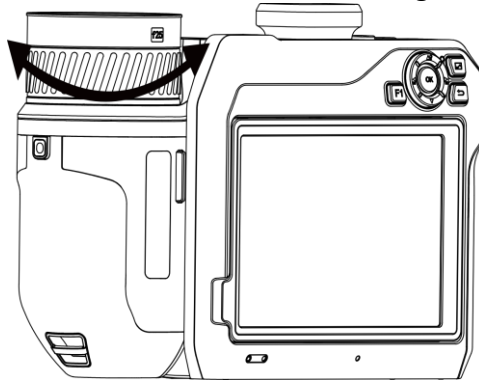

Figure 3-1 Focus Lens
3. Adjust the focus ring clockwise or anticlockwise until the target is clear. See Figure 3-1.